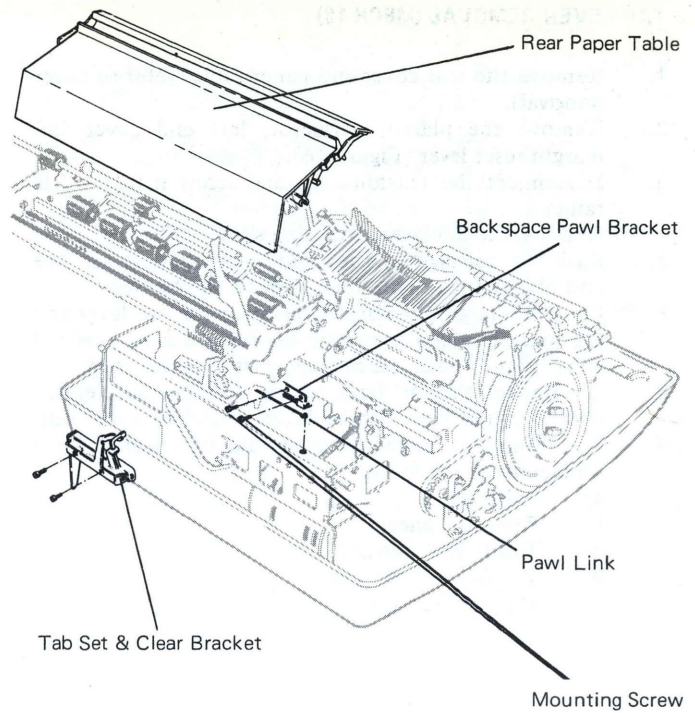

Figure 18 – C4, D4 Backspace Pawl Bracket Removal
2. Remove the tab set and clear bracket (Figure 18).